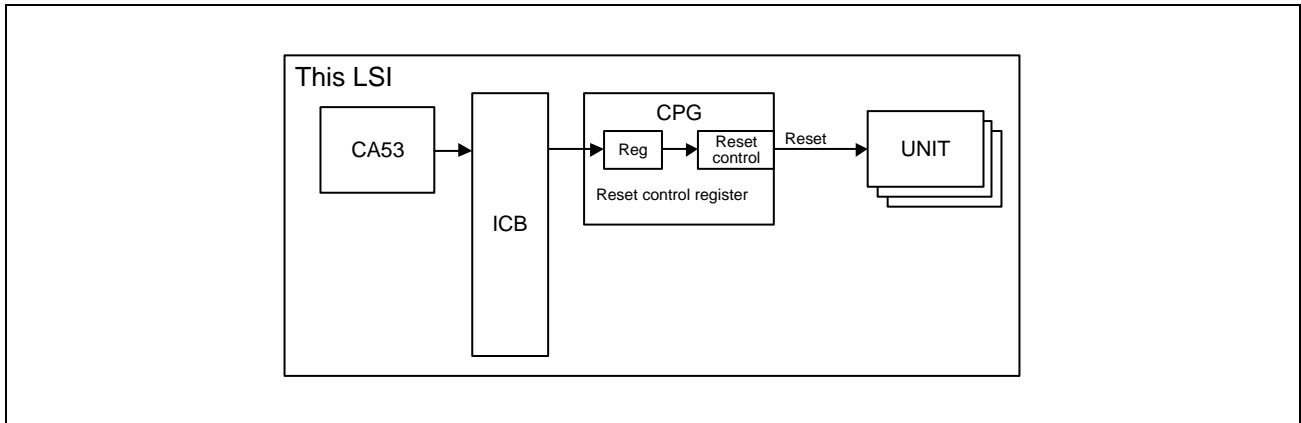

Figure 34.6-26 Schematic Diagram of Software Control Reset
**Figure 34.6-26** shows the schematic diagram.